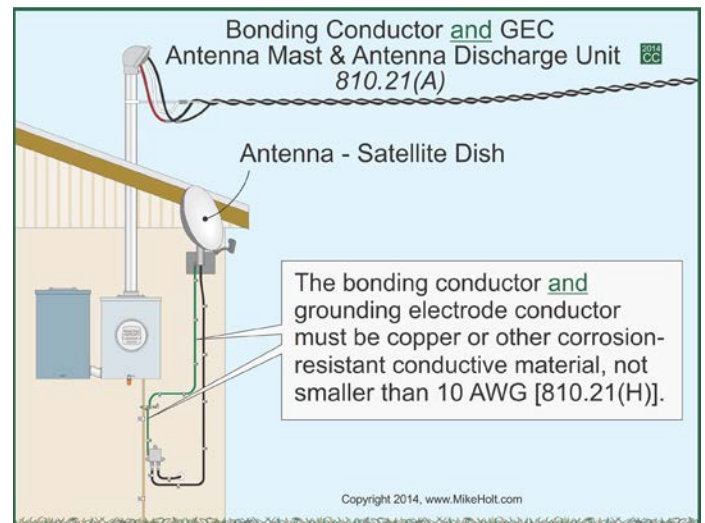

Figure 810–11
(A) Material. The bonding conductor or grounding electrode conductor to the electrode [810.21(F)] must be copper or other corrosion-resistant conductive material. **Figure 810–11**